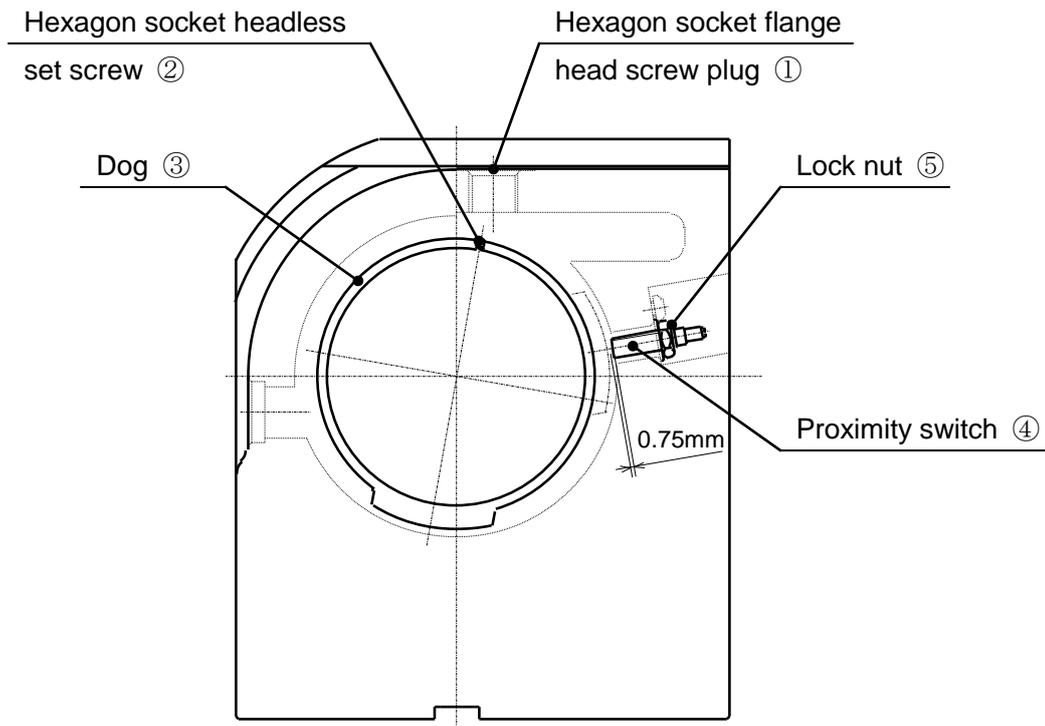

Fig.8
11-2. ZRN device Adjustment (See Fig.8)
1) Proximity Switch (See Fig.8)